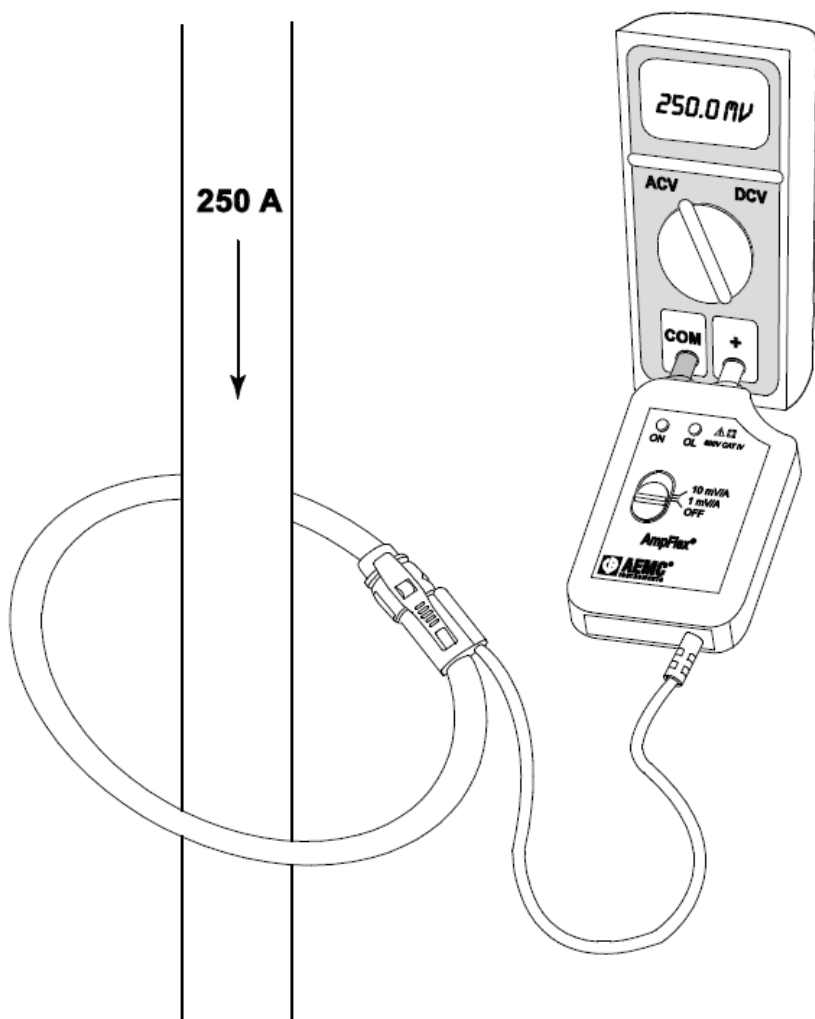

Figure 3
- The AmpFlex® may be doubled around the conductor to be measured to double the output (see Figures 3 and 4 to show the different values on a DMM while measuring 250 AAC).